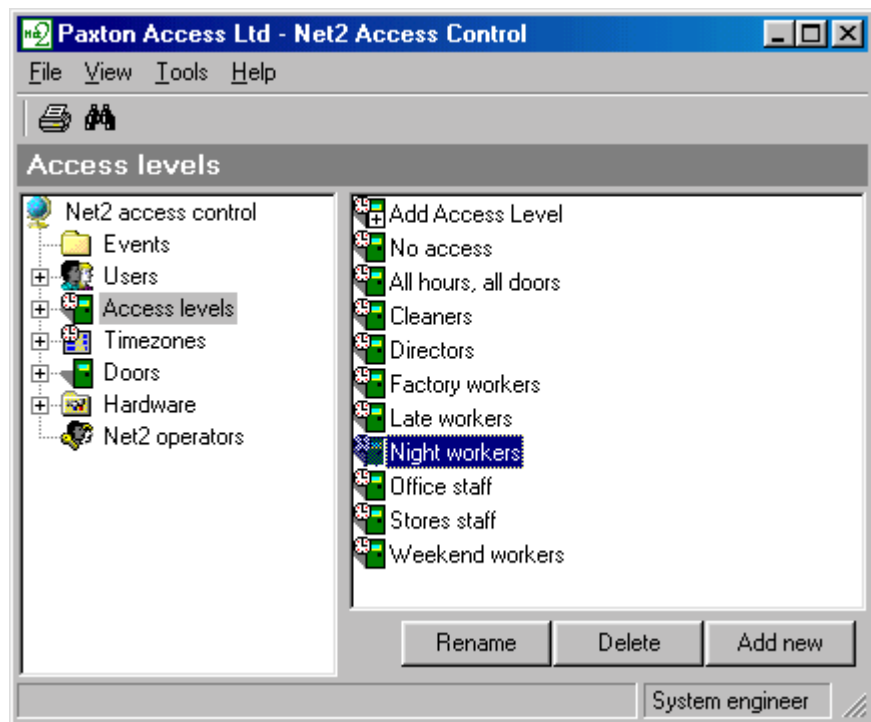

Figure 4.12
1. Select the desired access level, see figure 4.12.